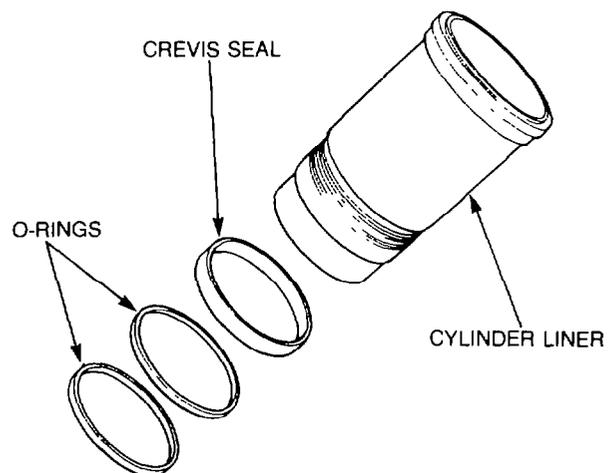

Figure 38 — Cylinder Liner Seals — Installation
- b. Apply a liberal coat of a suitable vegetable based oil to the crevis seal and the two O-rings, then install the shim sealing ring of equivalent thickness to that noted on disassembly, below the cylinder liner flange, the crevis seal in the top groove, then the O-rings in the centre and bottom grooves (see Fig. 38).